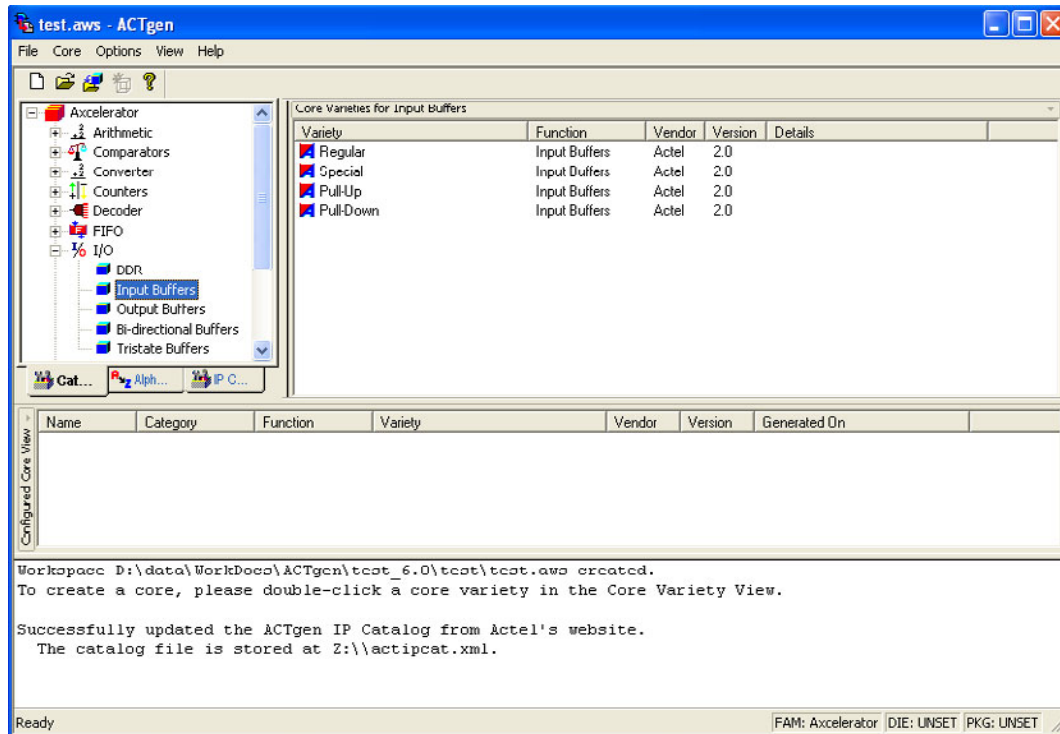
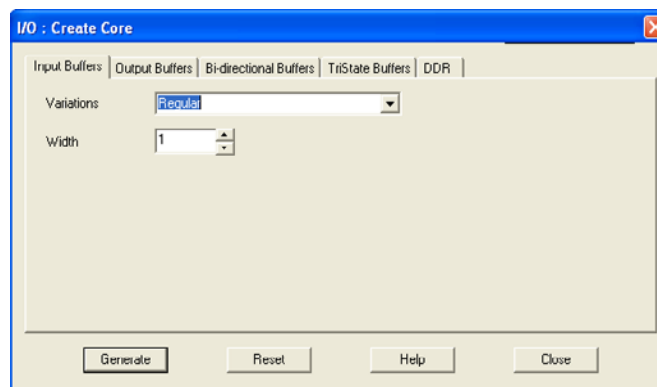

Figure 4 • I/O Options
Figure 5 • I/O: Create Core Dialog Box
1. Double click any of the core varieties for Input Buffers from the Variety View Window (Figure 4). The I/O: Create Core dialog box opens with the Input Buffers tab selected (Figure 5).